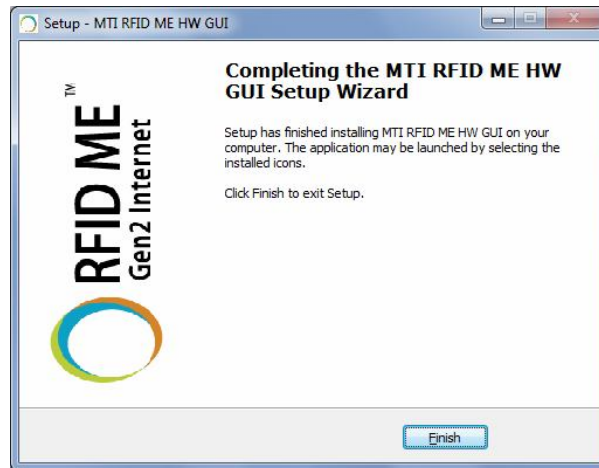

Figure 7
2.1.7. Congratulations! You have completed the RU-888-100 software installation. Press “Finish” to close the window. Select any of the installed icons to launch the MTI Reader Suite program as shown in Figure 7.